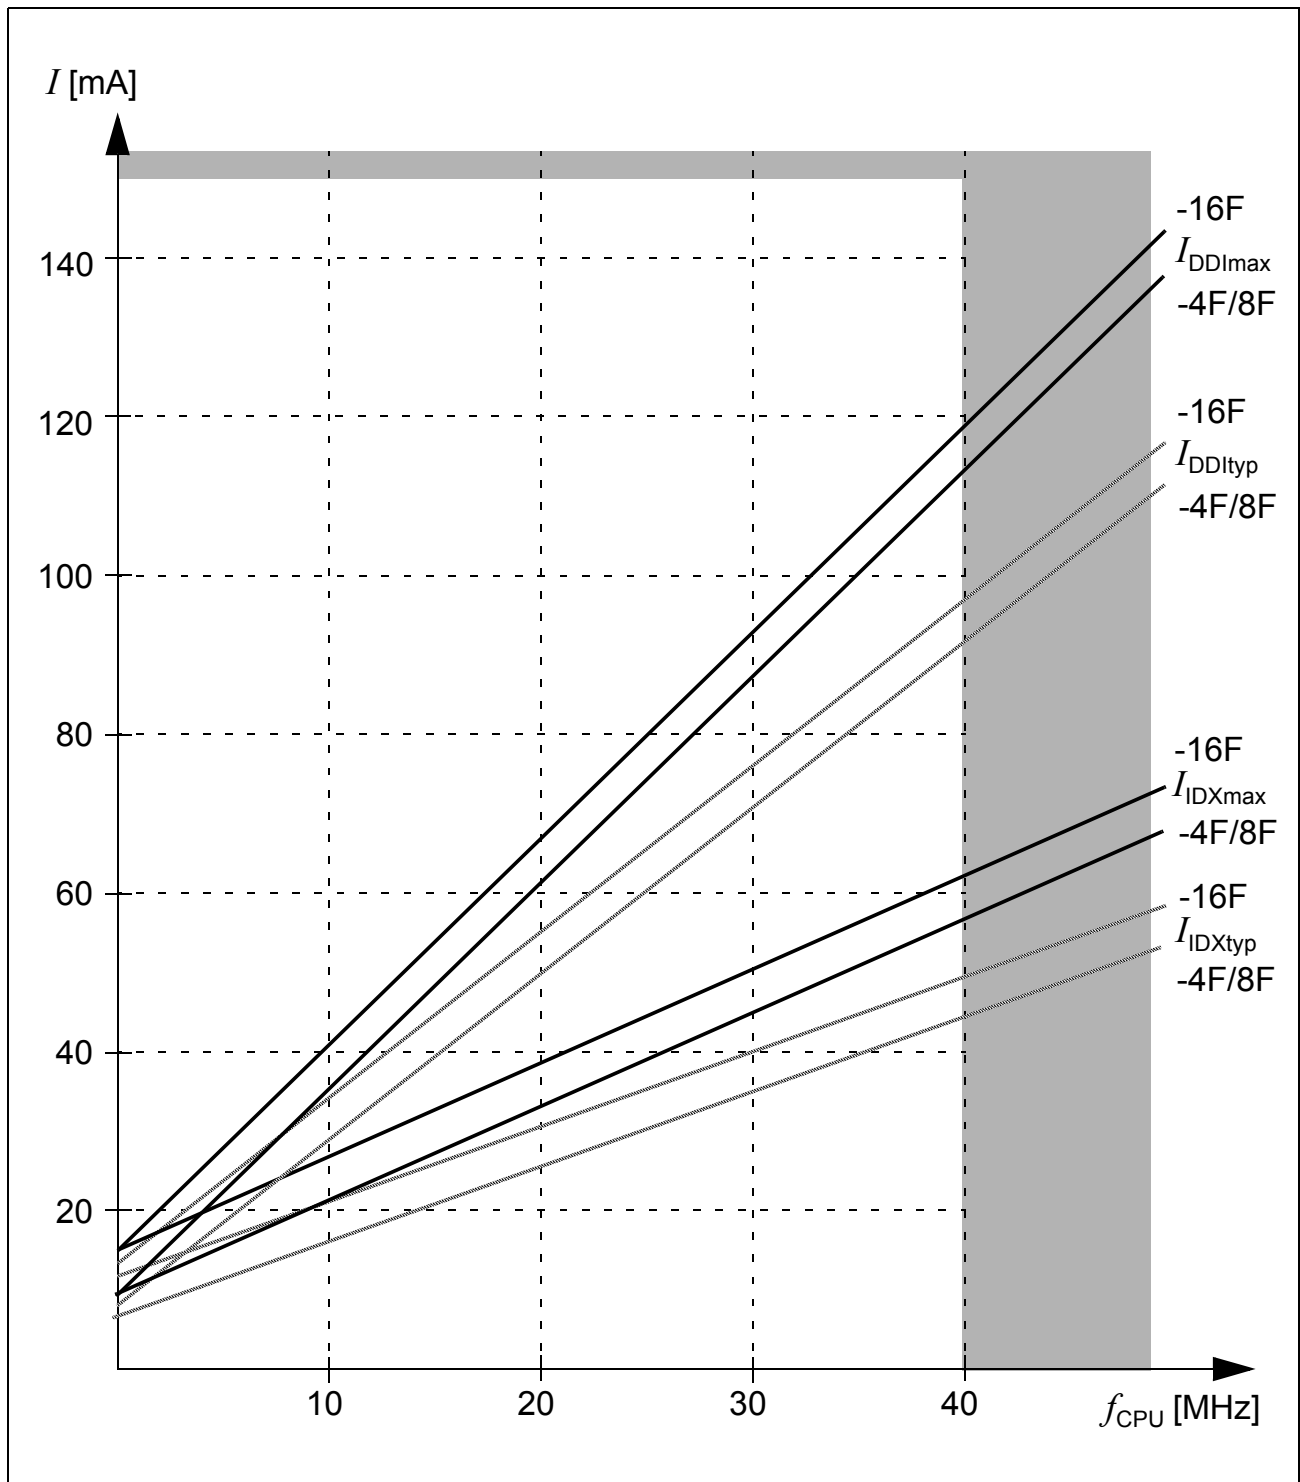

Figure 11 Supply/Idle Current as a Function of Operating Frequency
- 2) The supply current is a function of the operating frequency. This dependency is illustrated in Figure 11. These parameters are tested at $V_{DDI\max}$ and maximum CPU clock frequency with all outputs disconnected and all inputs at V_{IL} or V_{IH} .